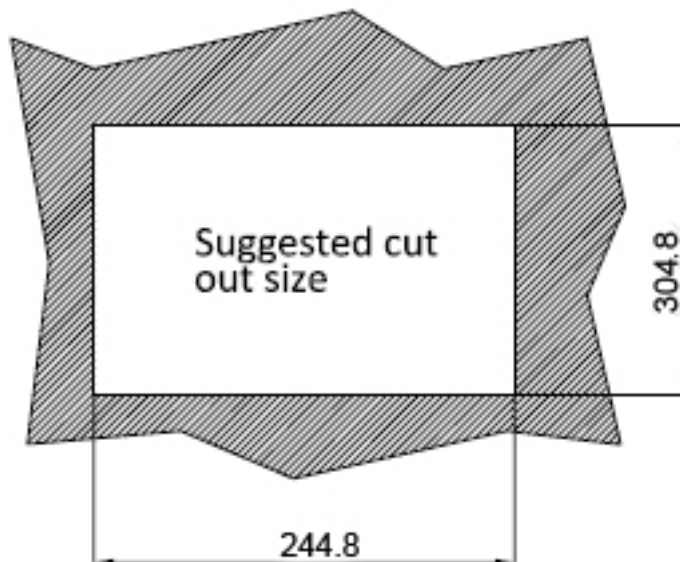
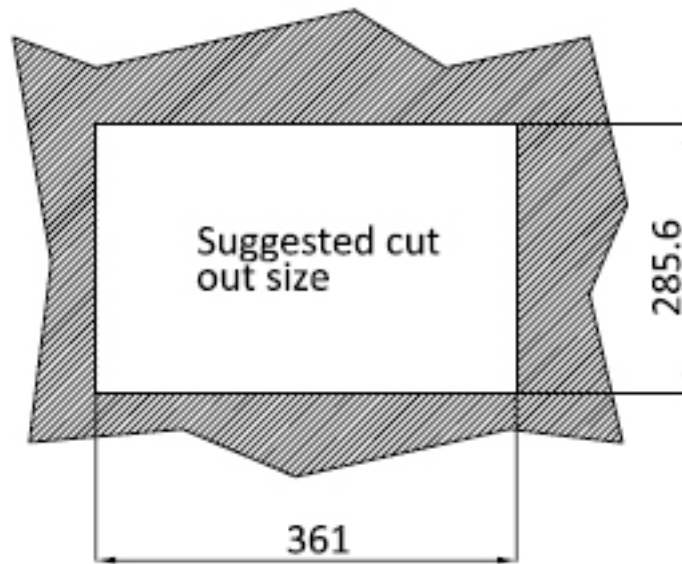
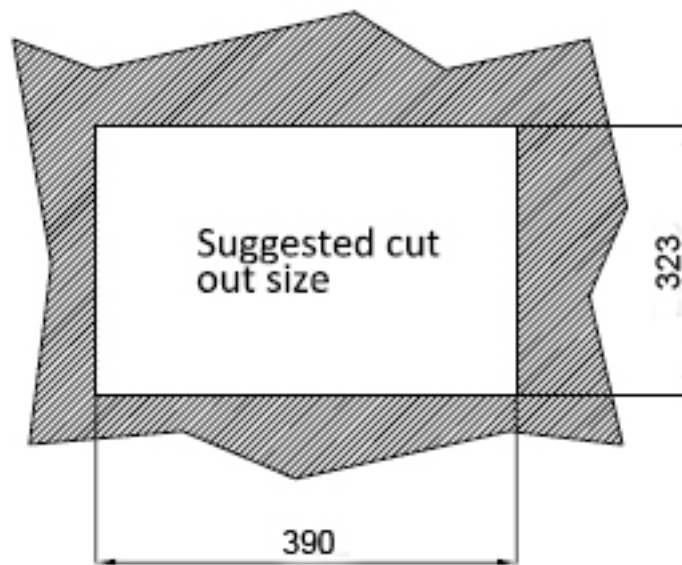

Figure 3-19: PPC-F12B-BTi Panel Cutout Dimensions
Figure 3-20: PPC-F15B-BTi Panel Cutout Dimensions
Figure 3-21: PPC-F17B-BTi Panel Cutout Dimensions
- Step 3:** Cut out a section of the panel that corresponds to the rear panel dimensions of the PPC-F12B/15B/17B-BTi. The recommended cutout sizes are shown below (Figure 3-19, Figure 3-20 and Figure 3-21).